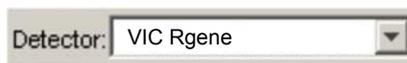

Fig.25
- Click on the **DETECTOR** field then select the detector **VIC R-GENE** (Fig.25).